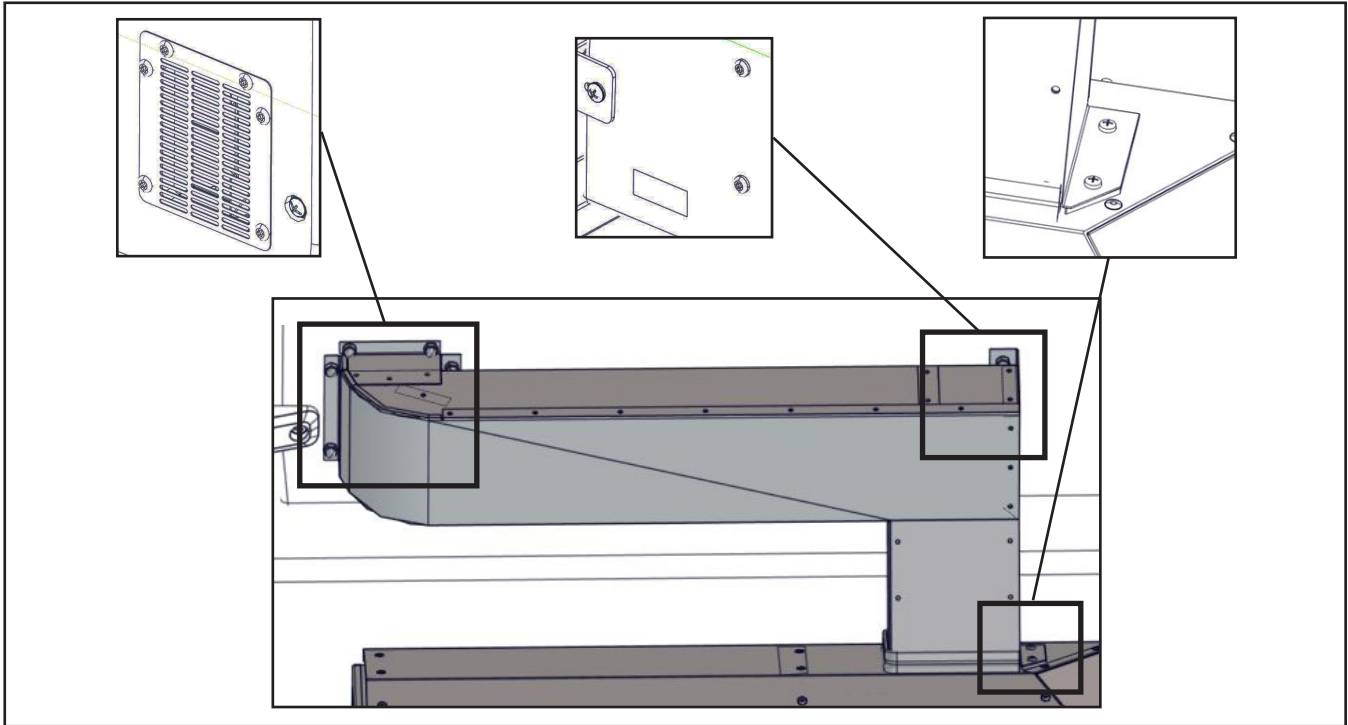

Figure 2 - Remove the Air Diffuser Conduit
- 1.4. Only for the heater located in the back, remove the air diffuser conduit by removing the screws and the blind nuts. Keep the hardware for reinstallation (Figure 2).